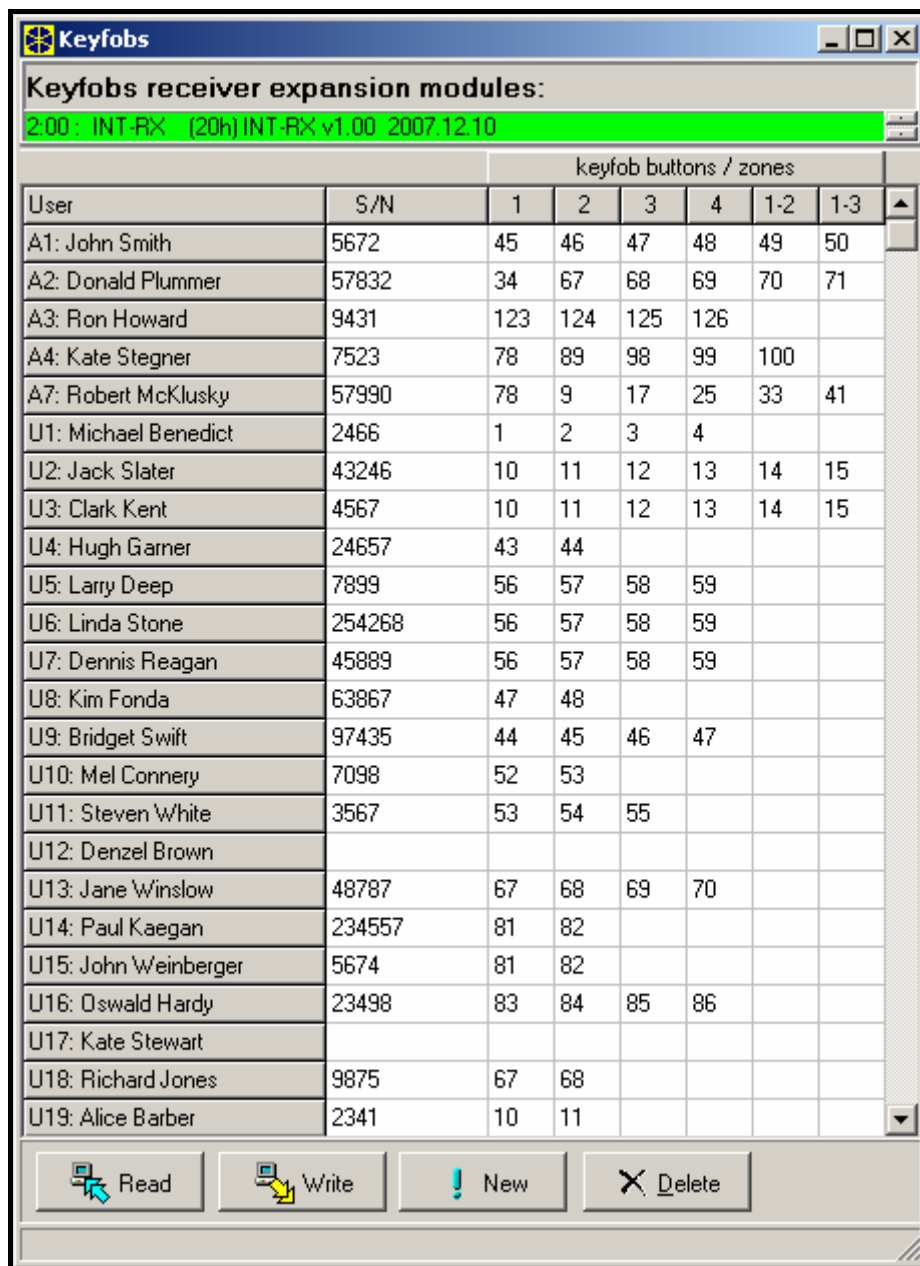

Fig. 2. View of the KEYFOBS INT-RX window in DLOADX program (interaction with INTEGRA control panel).
You can add key fobs by using the KEYFOBS INT-RX window (see Fig. 2). To open the window, click on the KEYFOBS INT-RX item in the USERS menu, or on the EDIT KEYFOBS button, which is available after selecting the INT-RX expansion module from the list of devices (tab HARDWARE, window STRUCTURE). Prior to adding a new key fob, you have to read the data from the module. In order to do so, click on the READ button. This will update the information presented in the KEYFOBS INT-RX window. The name(s) of the module(s), the control panel can communicate with (displayed at the top of the window – see Fig. 2), will be highlighted in green.
- Open the KEYFOBS INT-RX window (see Fig. 2).